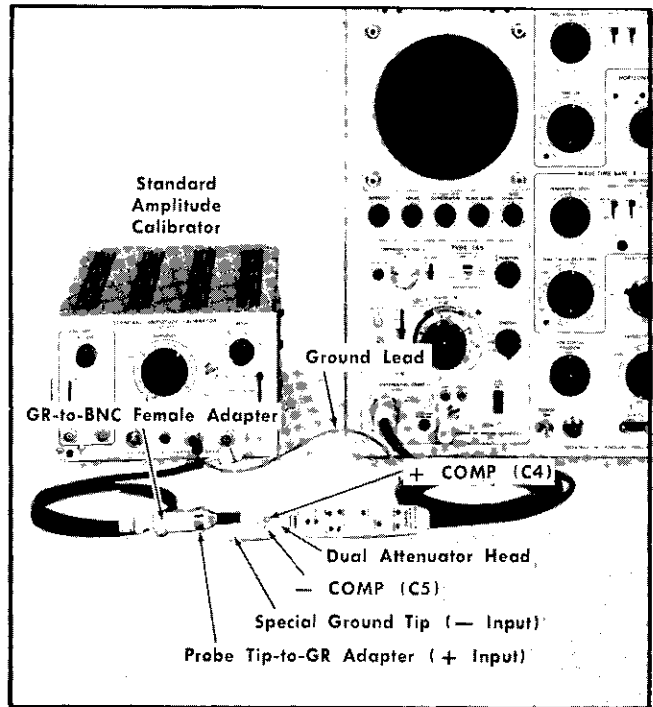

Fig. 6-19. Equipment setup for Dual Attenuator Head AC compensation, step 11.
11. Adjust Dual Attenuator Head AC Compensation (+ COMP — COMP) ①
a. Preliminary control settings apply. The equipment setup and adjustment locations appear in Fig. 6-19.
i. ADJUST— + COMP (Fig. 6-19) for optimum squareness at the upper left corner of the square wave. ± 0.1 div or less rounding, overshoot or tilt.
l. ADJUST—Attenuator - COMP (Fig. 6-19) for optimum squareness at the lower left corner of the square wave. ± 0.1 div or less rounding, overshoot or tilt.